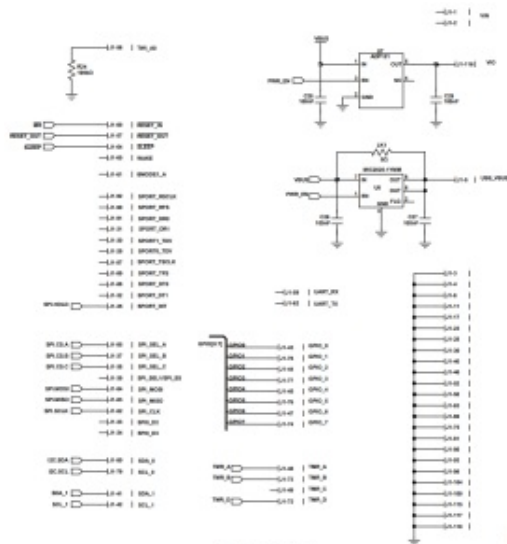

Figure 9. SGP-3—Connector
- SDP-S—Connector (see Figure 9)